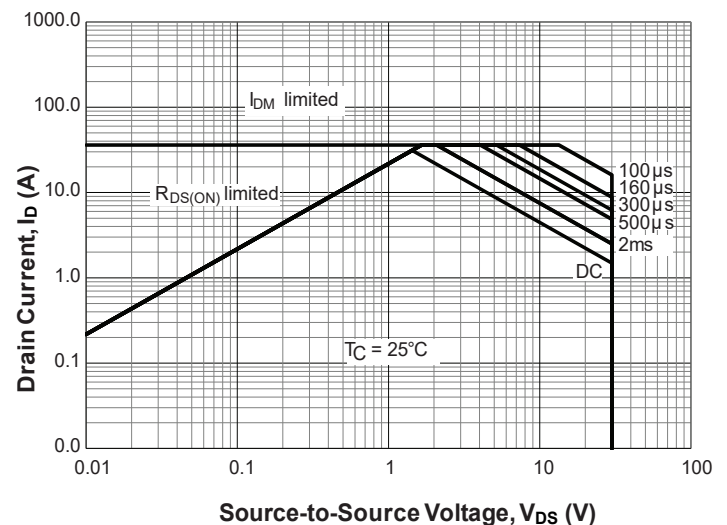

Figure 26. Safe Operating Area (SOA) Curves for Sink Power Switch
Referring to the SOA curve in Figure 26, the maximum power allowed for 2ms (DC) is 50W ($2.5A \times 20V$ or $5A \times 10V$). The AOZ1381DI power switch is robust enough to drive a large output capacitance with load in a reasonable soft start time.